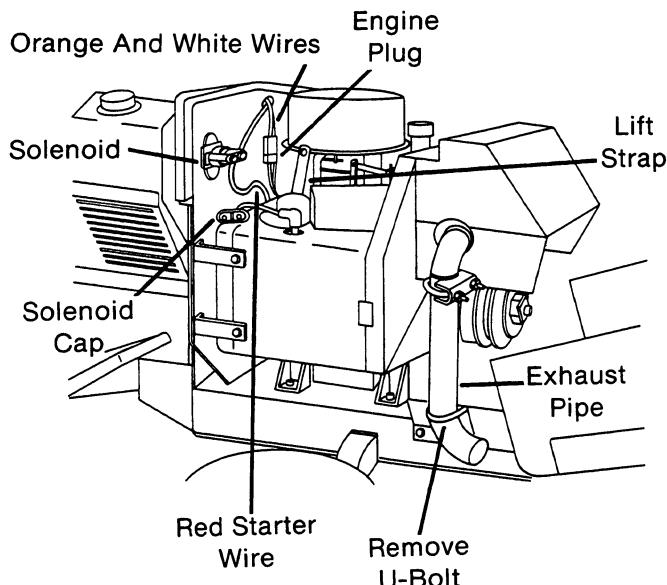

FIG. 3
c. Remove cap on solenoid and disconnect red starter wire at solenoid. (Fig. 3)
G. Remove two nuts and lockwashers on U-bolt securing exhaust pipe to engine mounting bracket. (Fig. 3)